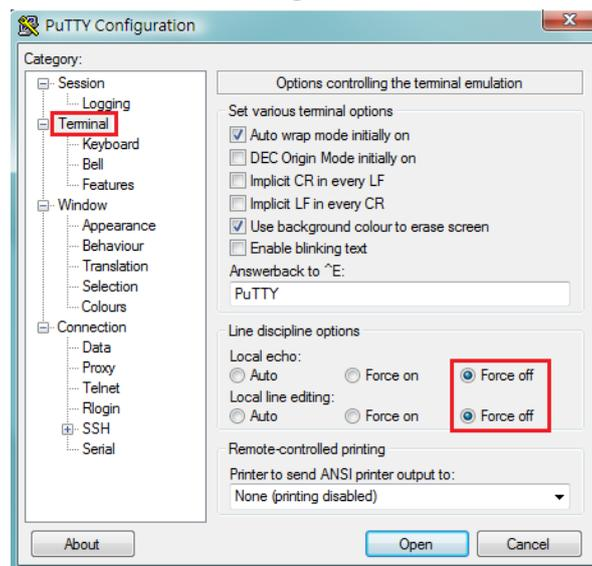

Figure 5. The PuTTY Configuration window.
**Note:** If user uses PuTTY to configure SSH access, please configure Line discipline of Terminal as “Force off”, as shown in Figure 5.